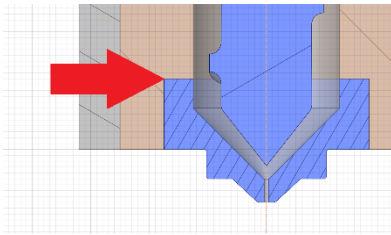

Figure 36 (Contact surface nozzle and extruder)
4. Check for impurities or particles on the nozzle’s and extruder’s surfaces that lie in a plane against each other (fig 36).